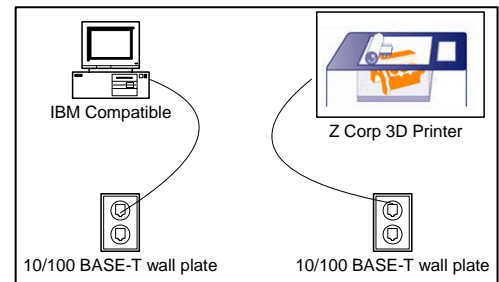

Figure 1: Connect directly to network
a) Hardware setup (see figure 1):